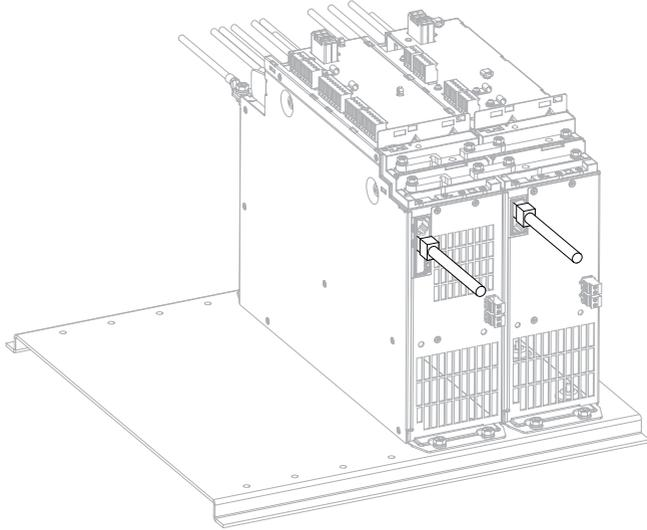

Figure 3-12 Connecting the network cable
3. Connect the input cable of the external 24 V power supply and the network cable. The connection figure is similar to that of the booksized unit. For details, see "Figure 3-11" on page 47 and "Figure 3-12" on page 47.
5. Connect the input cable of the external 24 V power supply and the network cable. The connection figure is similar to that of the booksize unit. For details, see "Figure 3-11" on page 47 and "Figure 3-12" on page 47.